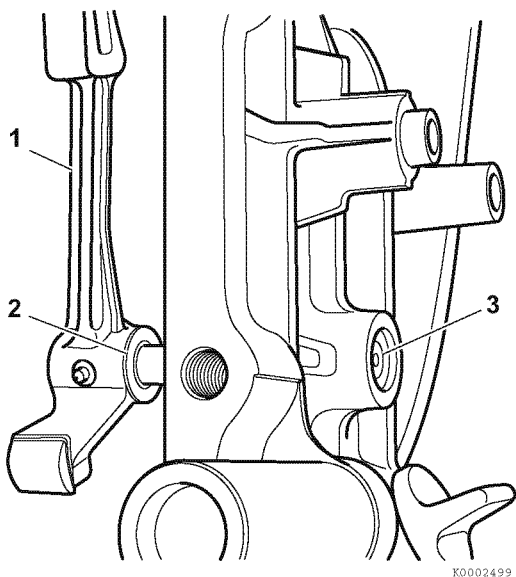

Figure 6-81
5. Remove the throttle shaft and governor arm assembly (1, **Figure 6-81**) along with the washer (2, **Figure 6-81**).
- Carefully pry the seal (3, **Figure 6-81**) out of the bore.